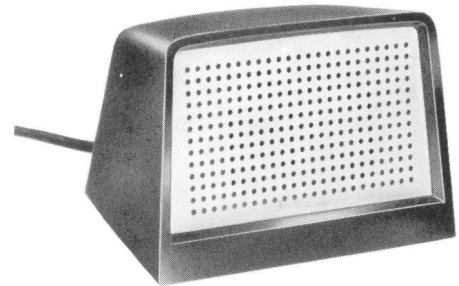

Fig. 4 - 760A Loudspeaker
- 760A loudspeaker (Fig. 4).
2.05 The 760A loudspeaker (Fig. 4) consists of a small speaker mounted on a metal base with a metal grill front, and is covered with a molded plastic housing. This speaker is used at the remote station locations in the system. Although normally used as a desk or table mounting, it may be mounted on a wall or other vertical surface by using the 69A bracket.